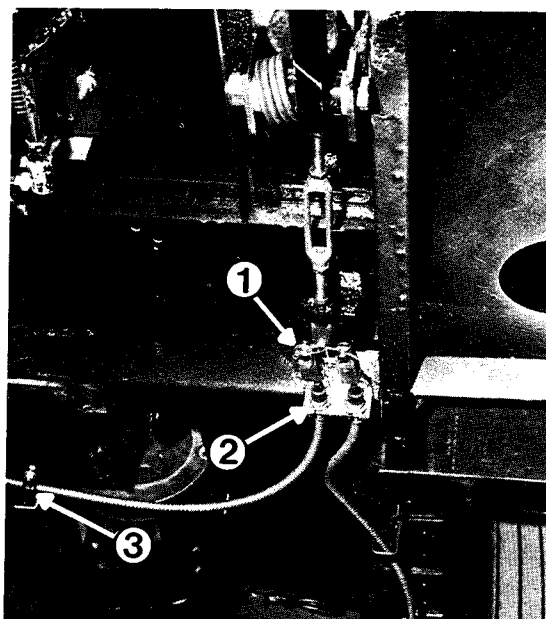

FIG. 4C
**BRAKE CABLE ASSEMBLY REMOVAL (Fig. 4C & 5C) (A-12 type & S-12 type)**
Remove cotter pin and clevis pin (1), remove retainer clip (2.) (Fig. 4C)